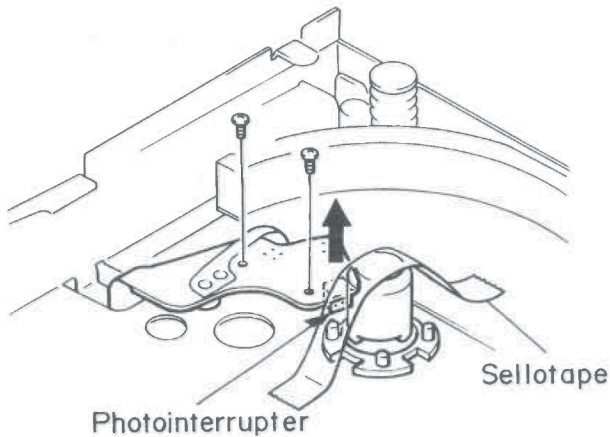
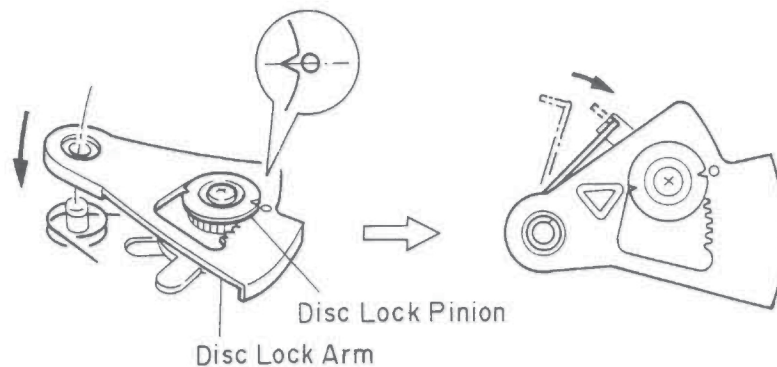

Fig. 2.13.1
Fig. 2.13.3 Bottom View
Refer to Figs. 2.13.1 and 2.13.2.
- (1) Remove the UD Link Arm SL. Refer to item 2.11.
- (2) Remove the two screws and lift the edge of the Mecha Flexible P.C.B. Ass'y to remove the Photointerrupter from the chassis. Refer to Fig. 2.13.1.
- (3) Apply Sellotape to the Disc Lock SL Ass'y as shown in Fig. 2.13.1 to prevent the Disc Lock from falling off while removing the Disc Lock Arm SL.
**NOTE:** Positioning of the Disc Lock Arm SL is required. Refer to Fig. 2.13.3.
- (1) Place the Disc Lock Spring SL as shown in the figure.
- (2) Insert the Disc Lock Pinion into the hole of the Disc Lock Arm SL.
- (3) Adjust the position of the Disc Lock Arm SL until its mark meets the V-cut of the Disc Lock Pinion as shown in the figure.
- (4) Insert the shaft hole of the Disc Lock Arm SL into the shaft.
- (5) Hook the end of the Disc Lock Spring SL on the chassis hole as shown in the figure.
- (6) Reassemble the cut washer F01 in place.
- (7) Peel off the Sellotape and fasten the screws to seat the photointerrupter. Refer to Fig. 2.13.1.